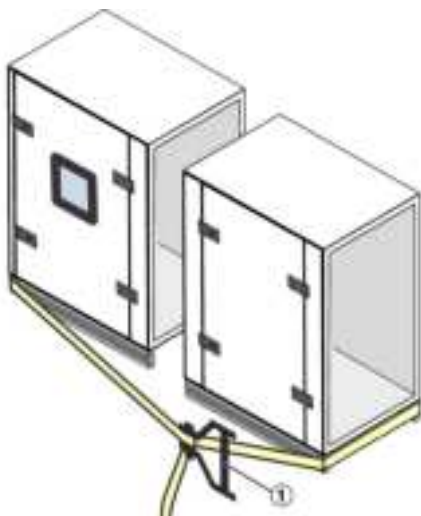

Fig. 14: Attaching a ratchet strap, with base frame
7. ▶ Attach a ratchet strap to the base frames of two AHU casing units (Fig. 14).